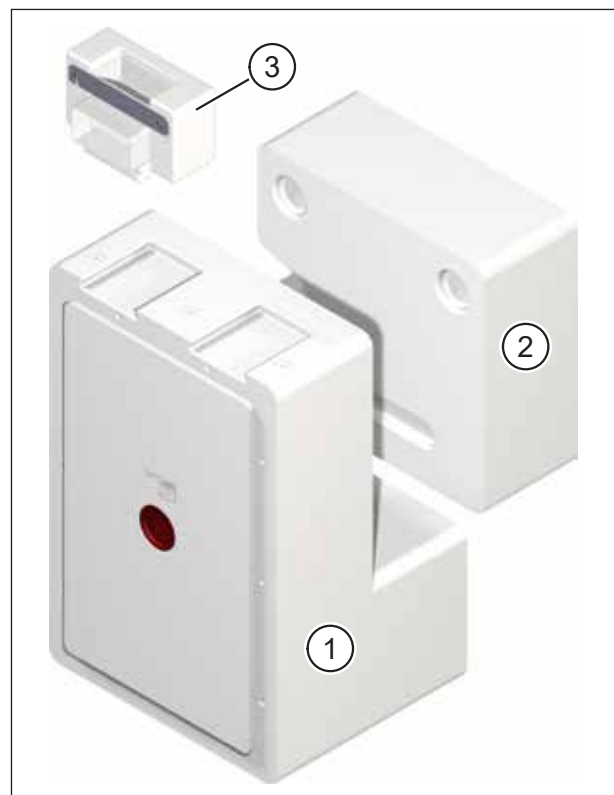

Fig. 1: Installation kit M-WRG-II M with optional filler piece M-WRG-II M/Fü and ductwork connection adapter M-WRG-II AD-UP
This manual describes how to flush-mount the M-WRG-II M installation kit (item 1 in Fig. 1) in frame constructions. In a new build or a retrofit, if a complete wall aperture is planned for the installation kit, the optional filler piece M-WRG-II M/Fü (item 2 in Fig. 1) can be used to pack out the wall. Flush-mount flat ductwork or flexible pipe systems can be connected using the ductwork connection adapter M-WRG-II AD-UP (item 3 in Fig. 1) which is available as an option. The ductwork connection adapter can be used on the extract air side, supply air side or on both sides of the installation kit as required. The combination of installation kit M-WRG-II M and ductwork connection adapter M-WRG-II AD-UP is suitable for applications in which the wall is not thick enough for the integrated into wall installation kit M-WRG-II M-U².